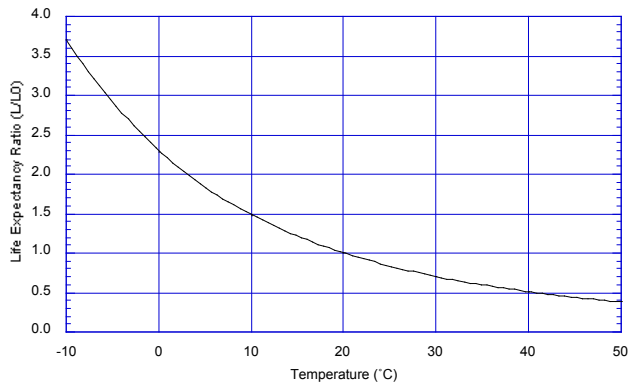

Fig. 9b - Relationship of life expectancy vs. ambient temperature (L₀ = life at 20°C)
Figure 9b shows the relationship between life expectancy and ambient temperature. The Y-axis indicates the ratio of life expectancy at a given temperature (L) compared to life expectancy at 20°C (L₀). A correlation exists between the sensor's life time and its storage temperature—the life time becomes shorter as the storage temperature increases.